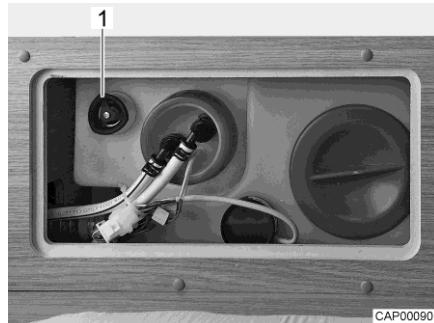

Fig. 70 Water tank with rotary handle
- Turn the rotary handle (Fig. 70,1) on the water tank in an anticlockwise direction as far as possible beyond the resistance to fully open the drainage opening.